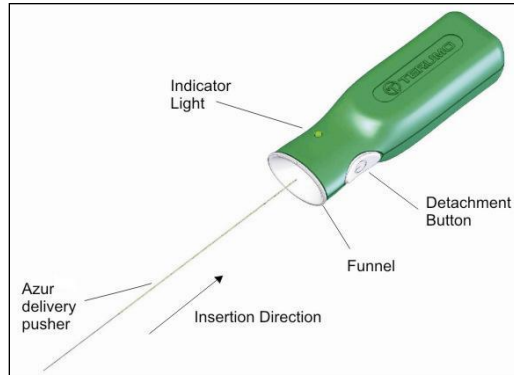

Figure 2 – AZUR Detachment Controller
15. Prior to using the device, remove the proximal end of the delivery pusher from the packaging hoop. Use care to avoid contaminating this end of the delivery pusher with foreign substances such as blood or contrast. Firmly insert the proximal end of the delivery pusher into the funnel section of the AZUR Detachment Controller. See Figure 2. **Do not push the detachment button at this time.**
35. Connect the proximal end of the delivery pusher to the AZUR Detachment Controller by firmly inserting the proximal end of the delivery pusher into the funnel section of the AZUR Detachment Controller. See Figure 2.